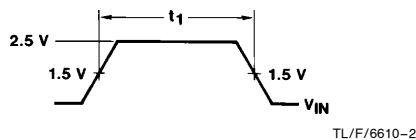

FIGURE 1
4. Set-up time (t_1) for input trigger pulse must be > 40 ns. (See Figure 1).